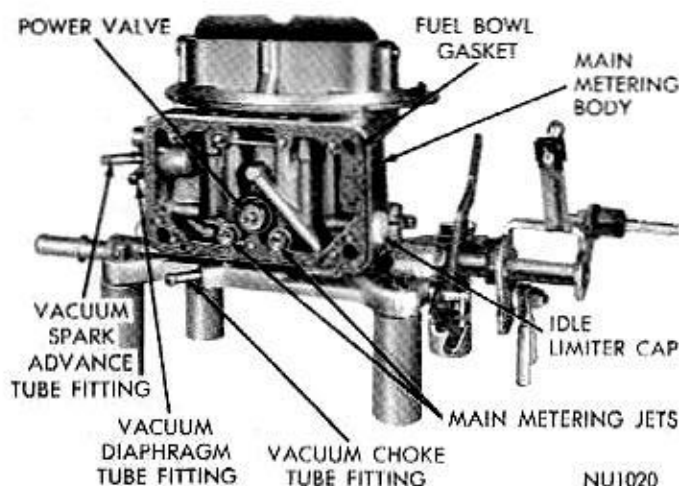
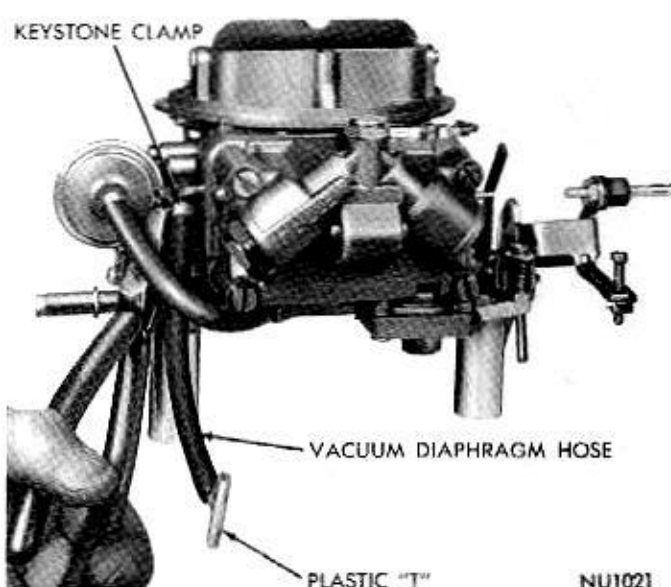

Fig. 21—Metering Body Installed
Fig. 22—Installing Vacuum Diaphragm Hose
(11) Engage choke link in slot on choke control lever, then place choke diaphragm on main body. Install attaching screws and tighten securely.
(12) Install new gaskets on front and rear of metering body, then install in position on main body with jets toward outside (Fig. 21).
(13) Slide new seal washers over fuel bowl mounting screws. Install screws through fuel bowl and metering body. (Be sure all gaskets are aligned, then tighten screws to 50 inch pounds). Make sure accelerator pump lever is under adjusting screw of accelerating pump operating lever.
(14) Install new keystone clamp over vacuum diaphragm hose (with tee for outboard carburetors), then slide hose over tube fitting (Fig. 22). Clamp with keystone pliers.